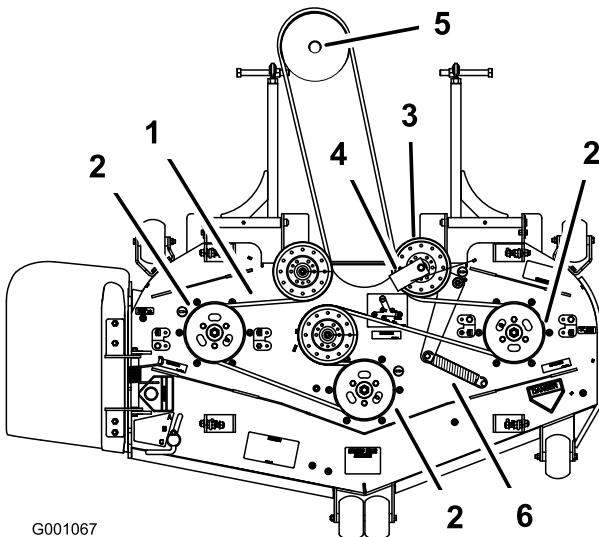
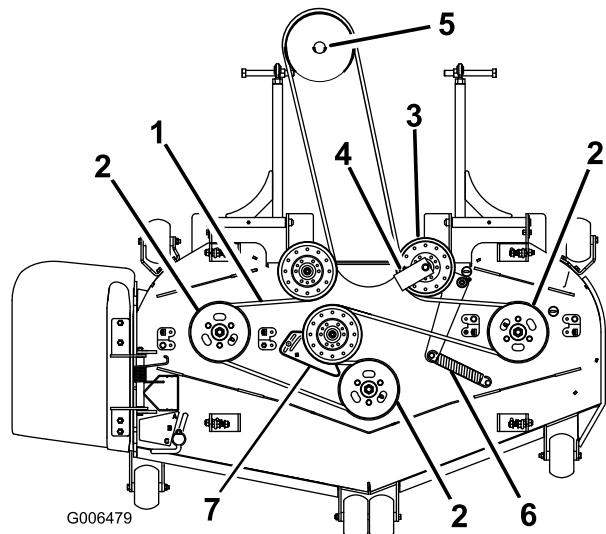
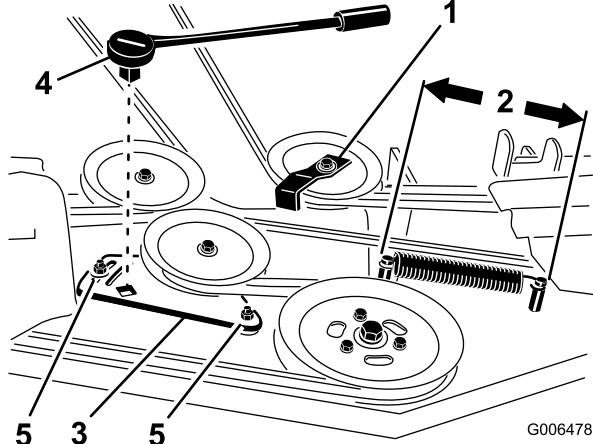

Figure 58
Figure 60
Figure 62
6. Install the new belt around the mower pulleys and the gearbox pulley under the engine (Figure 58).
7. Install spring to the idler arm (Figure 58).
8. Install the belt guide on the spring loaded idler at a 45 degree angle as shown in Figure 58.
4. Loosen the idler plate bolts holding the idler plate (Figure 62).
6. Remove the belt guide on the spring loaded idler pulley shown in Figure 60 and Figure 62.
8. Install the new belt around the mower pulleys and the gearbox pulley under the engine (Figure 60).
9. Install the belt guide on the spring loaded idler at a 45 degree angle as shown in Figure 58 and Figure 62. Torque the bolt to 27 to 33 ft-lb (37 to 45 N·m).
10. Install the idler spring to the two posts (Figure 58 and Figure 62).
7. Rotate the ratchet or breaker bar to move the idler plate until the idler spring is between 10 and 10-1/4 inches (25.4 and 26.0 cm) from post to post as shown in Figure 62.
8. While holding the belt tension and spring length, tighten the idler plate bolts that secure the idler plate (Figure 62).
4. Measure the spring length (Figure 62). If the spring length is between 10 and 10-1/4 inches (25.4 and 26.0 cm), from post to post, no adjustment is needed.
5. Loosen the bolts holding the idler plate (Figure 62).
6. Insert a ratchet or breaker bar into the square hole in the idler plate to adjust the tension (Figure 62).